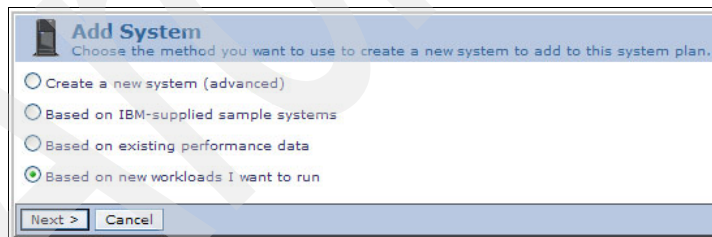

Figure B-20 SPT Add System panel
3. Click **Create a new system plan** to open the Add System panel, as shown in Figure B-20.
Assuming that you are planning to add a new workload or application, click **Based on new workloads I want to run** and then **Next** to open the new workload function of WLE (Figure B-20).